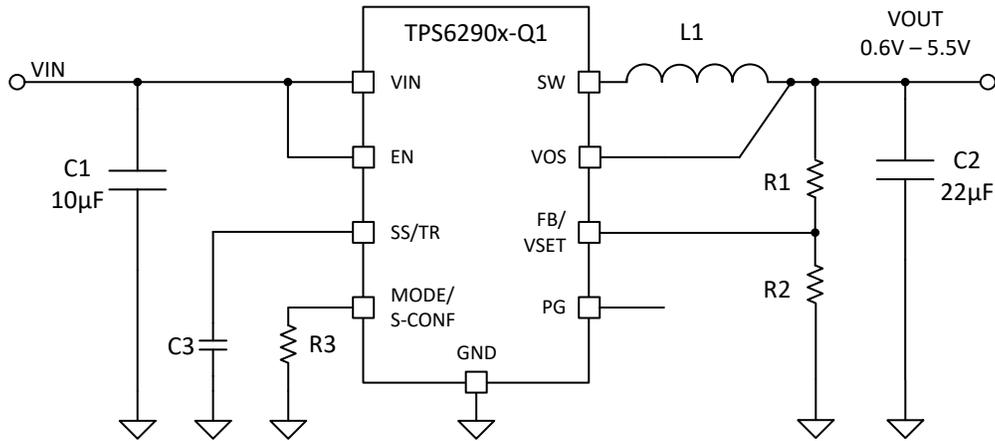
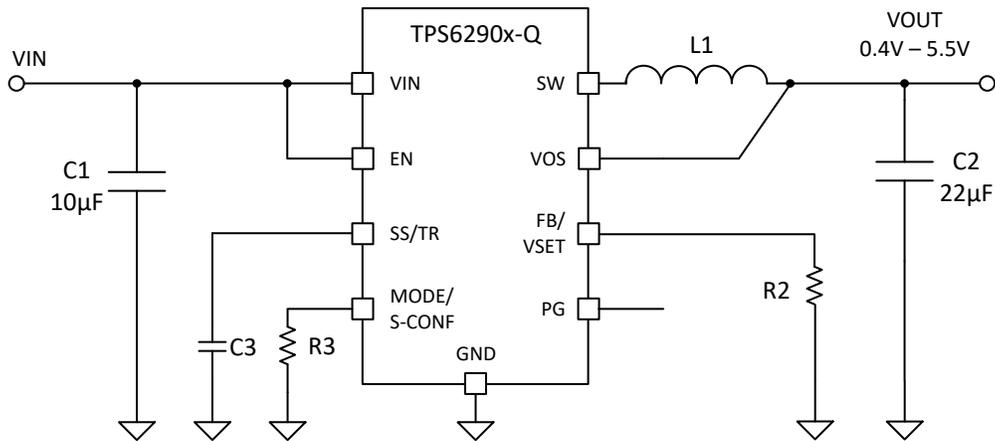

Figure 3-2. Adjustable V_O Operation Schematic
Figure 3-3. Selectable V_O Operation Schematic
- The device is operating in one of the two typical application configurations show in Figure 3-2 or Figure 3-3.
- (1) Damage occurs if V_{IN} is greater than the 6-V absolute maximum rating for the pin.
- (2) Damage occurs if V_{IN} is greater than the 6-V absolute maximum rating for the VOS pin.
- (3) Applies to a typical application schematic as shown in Figure 3-2
- (4) Applies to a typical application schematic as shown in Figure 3-3
- (5) Assumes Pin FMA condition occurs prior to device being enabled. If Pin FMA condition occurs after the device is operating, the device continues operating as previously configured.